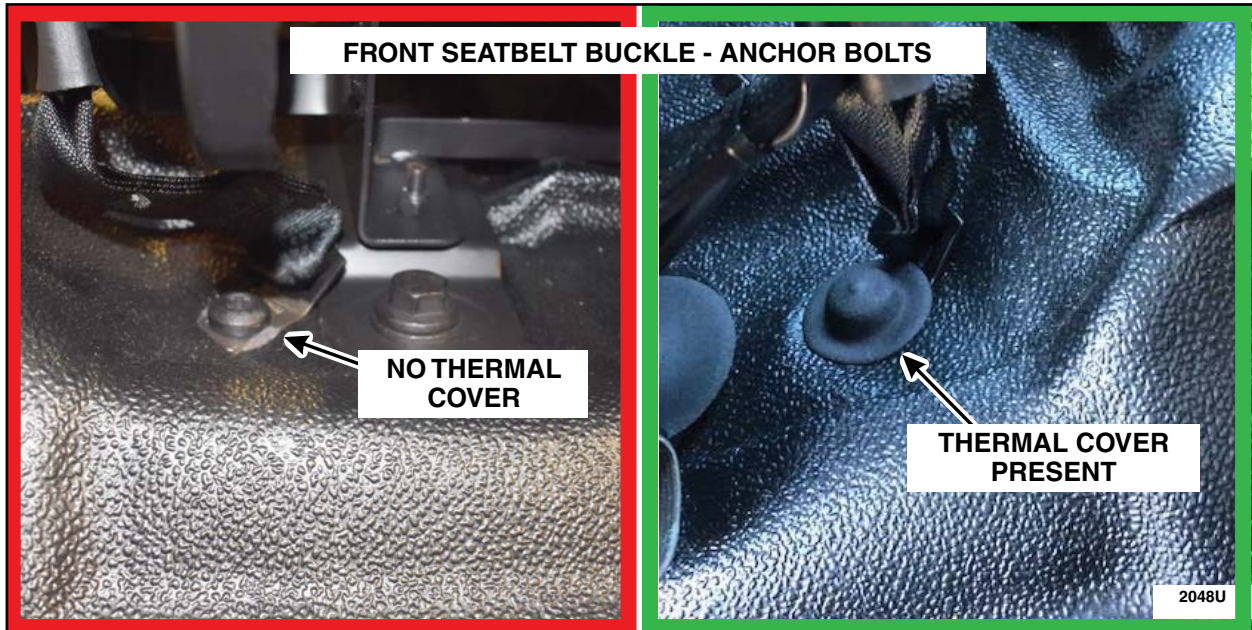

FIGURE 6
b. Covers on both front seatbelt buckle anchor bolts (2). See Figure 6.